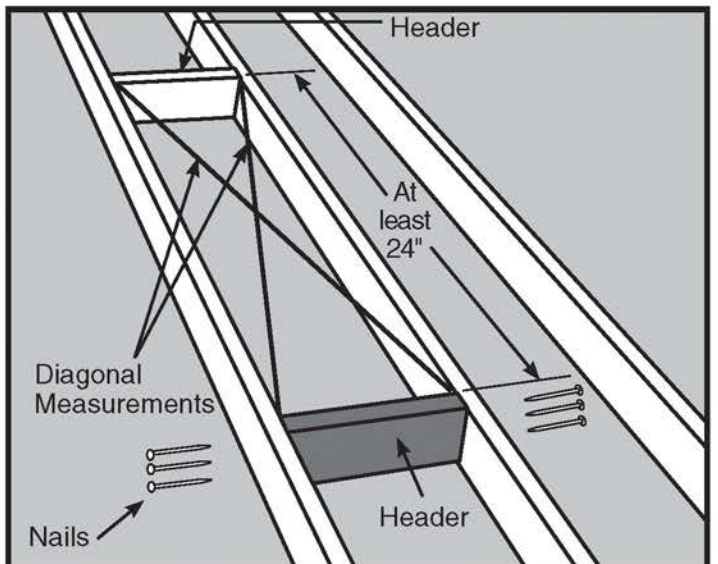

Figure 13 How to check for square
- STEP 5. Position the second header at least 24" from the first one and repeat Step 4 (See Figure 13).
- STEP 6. The frame for the rough opening requires four sides. The headers make up two of those sides. If your ceiling joists are spaced so that they make up the other two sides of the rough opening, check the opening for squareness by measuring across the diagonals. The measurements should be within 1/8" to be considered square (See Figure 13).